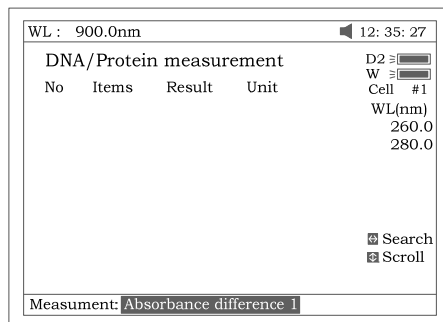
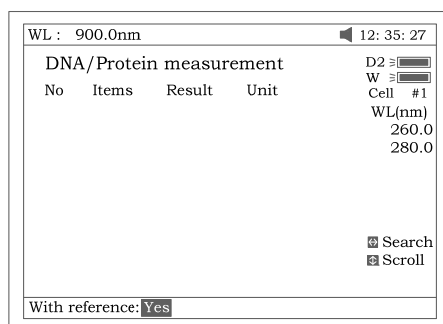

Fig 62
Fig 63
2. Press [**F2**] to select test mode. “Absorbance difference 1” is for testing at the wavelength 260nm, 280nm and 320nm (optional), and the “Absorbance difference 2” is for testing at the wavelength 260nm, 230nm and 320nm (optional), Fig 62. Then select with/without reference. If selected with reference (no), the A ref. will be “0” (Fig 63).